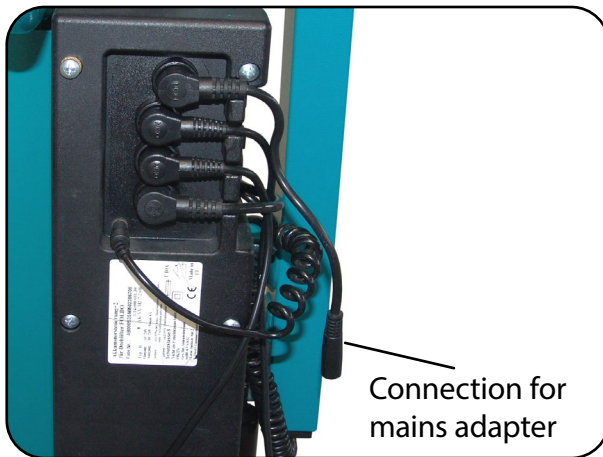
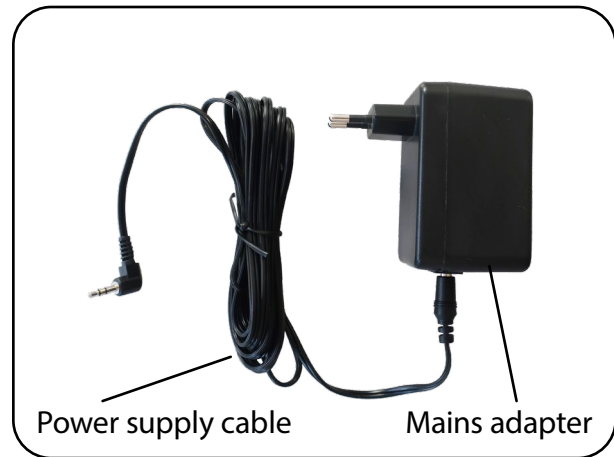

Fig. 8.7.01 – Control unit with connection for mains adapter
Fig. 8.7.02 – Mains adapter with power supply cable
The batteries can only be charged using the supplied mains adapter (Fig. 8.7.02) directly on the control unit. The charging socket is located on the underside of the control unit (Fig. 8.7.01).
Only plug the mains adapter into the mains socket in the suspended position (Fig. 8.7.02). This prevents kinks from developing in the power cable.
2. Connect the mains adapter via the power supply cable (Fig. 8.7.02) to the connection for the mains adapter on the control unit (Fig. 8.7.01).